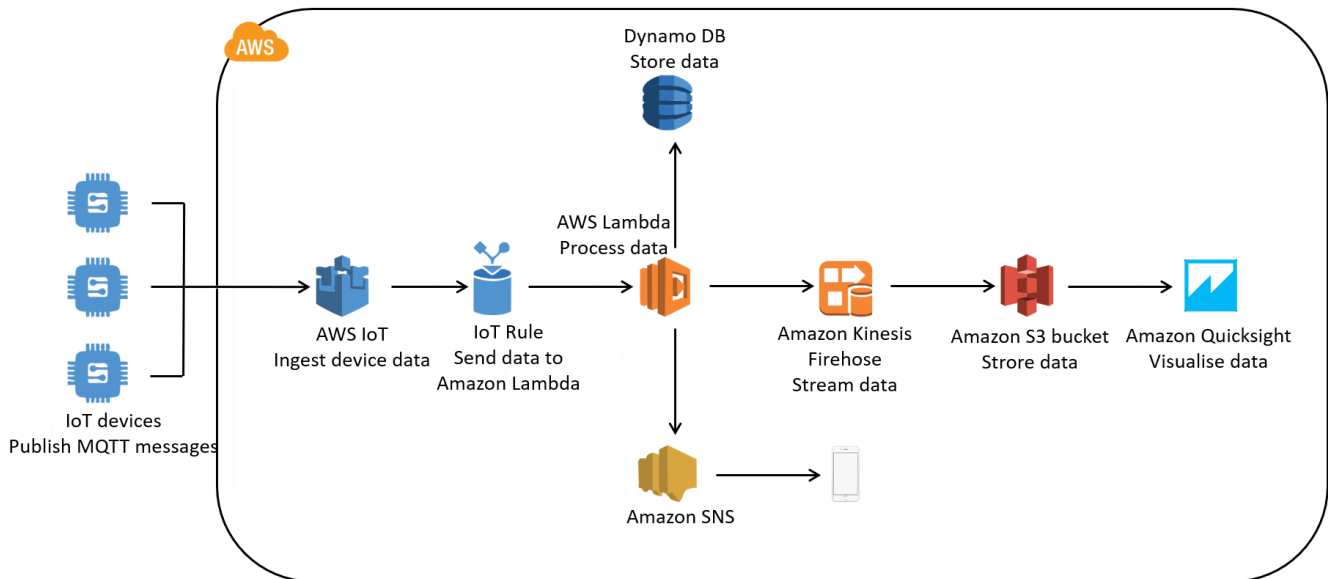

Figure 5: AWS example
**Amazon AWS:** Figure 5 shows a sample application using Amazon AWS. In this example, the devices are provisioned to connect securely to the Amazon AWS IoT core. The incoming data is then processed using the AWS lambda function. Using the thresholds stored in the Dynamo DB, the lambda function detects the thresholds and sends notifications to the user using the notification service (Amazon SNS). Further, the data is streamed to an S3 bucket using the Kinesis Firehose streaming service. The stored data can be used for visualization using Amazon Quicksight service.